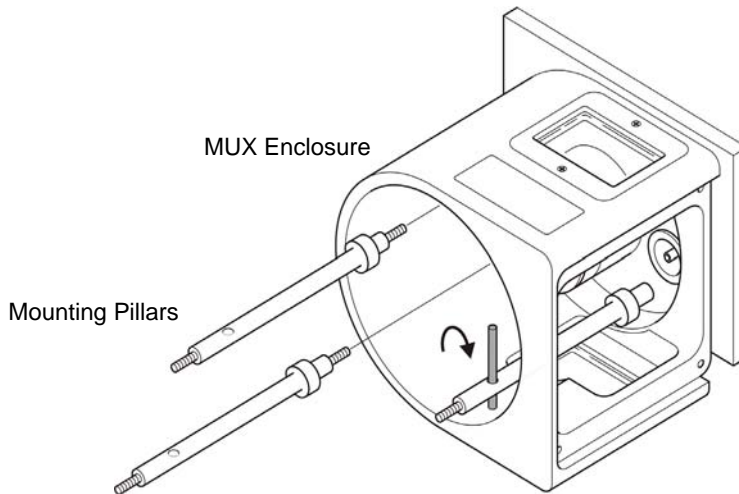

Figure 7-3 Attaching the MUX Enclosure
2. Attach the MUX enclosure to the ZSpray source using the long mounting pillars provided (Figure 7-3). Ensure that the pillars are full tightened, using a small bar inserted into the holes to act as a lever.